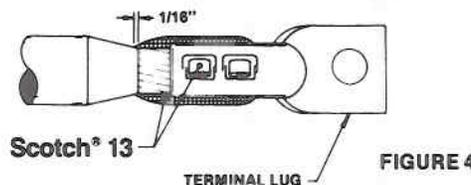

FIGURE 4
1. Fill indents in lug. See Figure 4.
2. Wrap two half-lapped layers of 13 Tape over lug. See Figure 4.